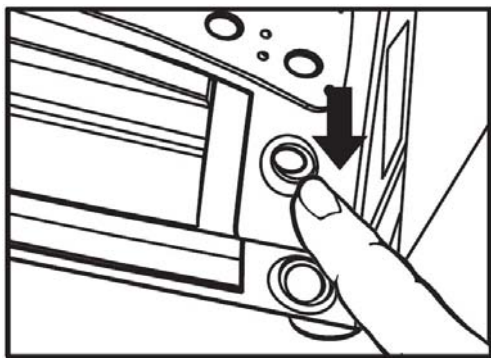

Figure 2-1
1. Press down the latch on the right side of the strip chart recorder door (See Figure 2-1).